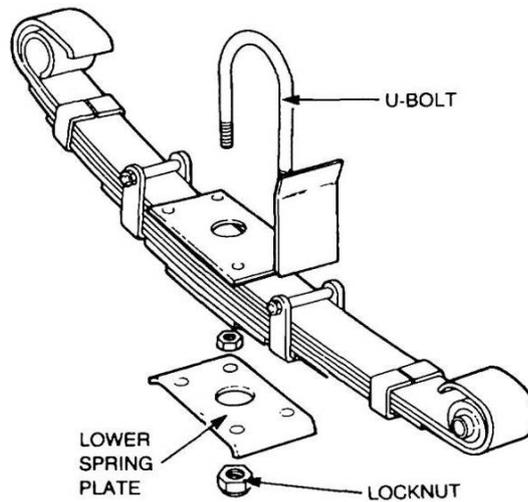

Figure 123 Removal of the U-Bolt And Retaining Plate
- d. To assist with removal of the spring, support the spring with a suitable trolley-jack. Remove the four locknuts from the U-bolts (Figure 123) and discard the locknuts.